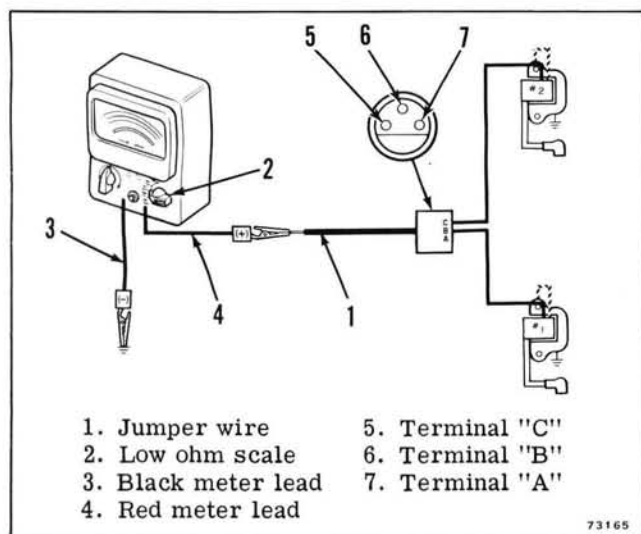

Figure 4-29. Primary Winding Resistance
c. Insert a jumper wire into the "B" terminal on the ignition coil end of the three wire connector. See Figure 4-29.
d. Calibrate an ohmmeter to low ohm scale, then connect the black meter lead (-) to a clean engine ground, and the red meter lead (+) to the "B" terminal jumper wire. See Figure 4-29.